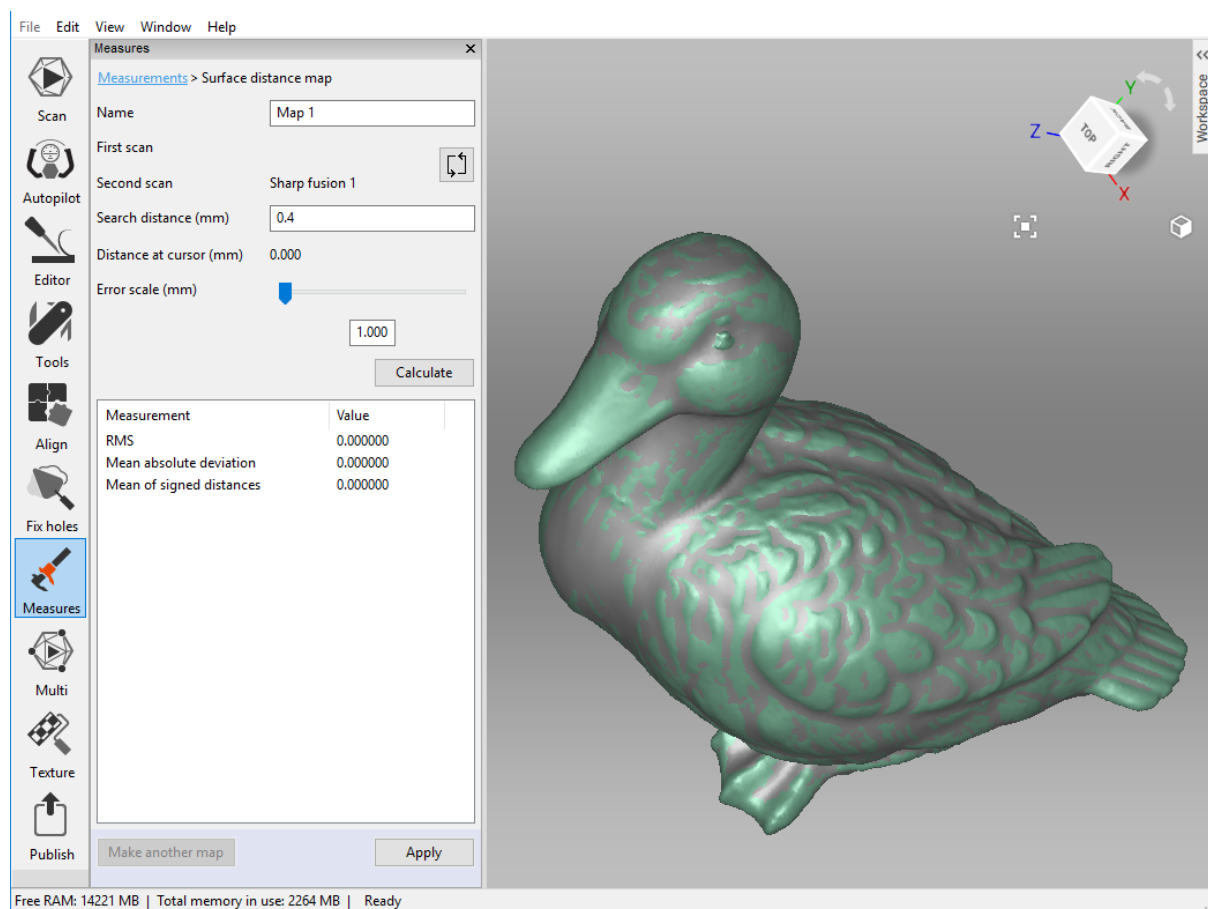

Figure 117: Specifying parameters for surface-distance map calculation.
3. If necessary, specify the name of the distance map in the *Name* field of the *Measures* panel (see Figure 117). By default the application creates new distance maps under the names Map 1, Map 2 and so on.